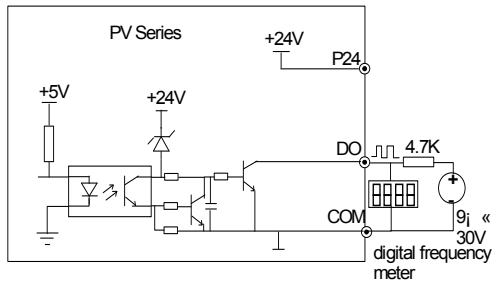

Fig. 3-30 Wire connections 2 of output terminal DO
④ Pulse output terminal DO can also use the external 9~30V power supply and the wiring is shown in Fig.3-30.